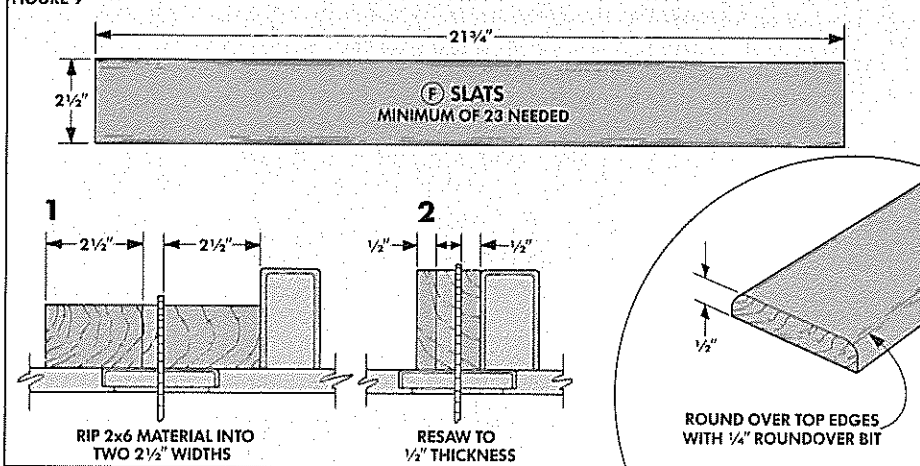

FIGURE 10
The slats are joined to three sets of rails (G,H,I) to form the leg rest, seat, and back rest. To make these rails, begin by ripping 2x6 stock to a width of $2\frac{1}{2}$ ", see Cross Section in Fig. 10. Then cut the six rails to final length as shown in Fig. 10.
Then mark off holes every 3" along the rail, see Fig. 10. After the positions of the holes are marked, drill $\frac{3}{16}$ " shank holes all the way through at each point.
Begin by drilling a $\frac{3}{4}$ "-dia. hole 1" deep on the inside face at the end of the rails of the seat (H) and the back rest (I), see Fig. 10. (These holes are the ones that correspond with pivot holes "d" and "e" on the support rails, refer to Fig. 12.)